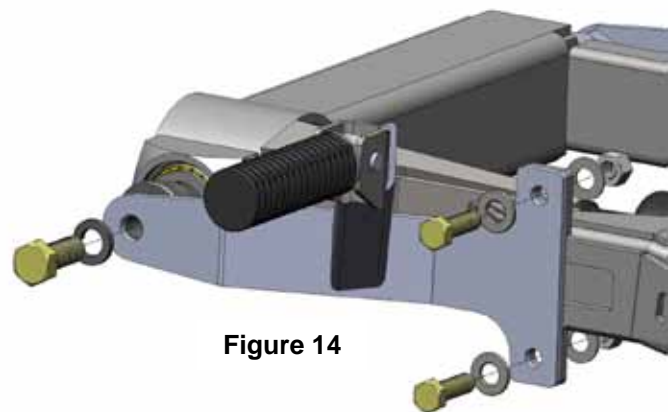

Figure 14
- b. Install footrest brackets to the swingarm using 3/8" bolts, washers, and nylock nuts and outside of pivot bolts using 1/2-20x1-1/4" bolts with 1/2" lock washers supplied in kit. See Figure 14.